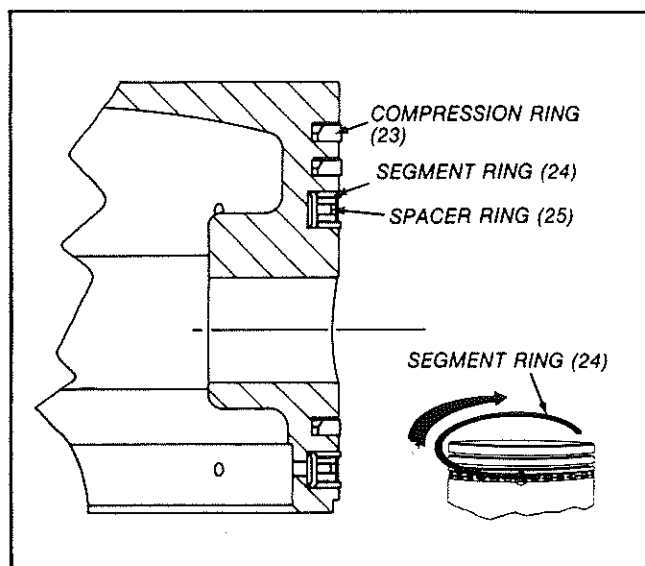

FIG. 14 PISTON & RINGS
1. Install the spacer and segment rings as follows. Place the spacer ring(25) in the piston groove, the ends of the spacer must butt and not overlap. Install the top segment(24) by inserting one end above the spacer in the ring groove, 120 degrees from the spacer ends and wind the segment into position. Install the bottom segment in the same manner beneath the spacer making sure the gap is staggered 120 degrees from both the top ring segment and the spacer end gaps. Before using be sure both painted ends of the spacer are visible and butted. (Refer to fig. 14.)
2. Install the compression rings(23) in the proper grooves with the bevel or "pip" mark (if any) toward the top of the piston. (Refer to fig. 14.)